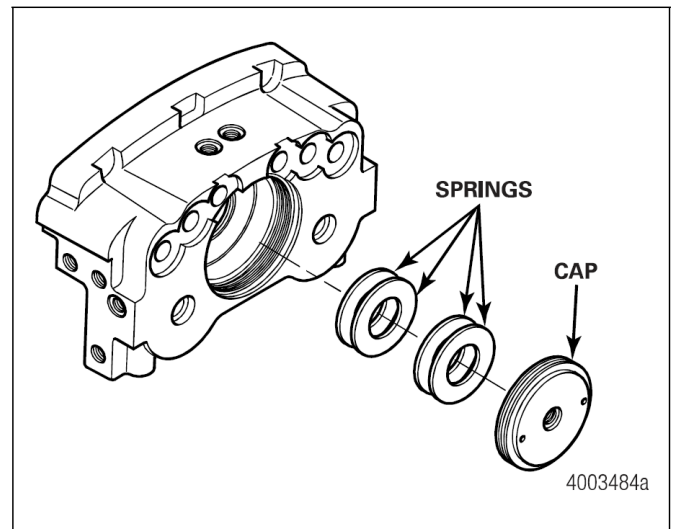

Figure 3.5
6. Remove the four belleville springs from the parking piston cavity of the caliper housing. Figure 3.5